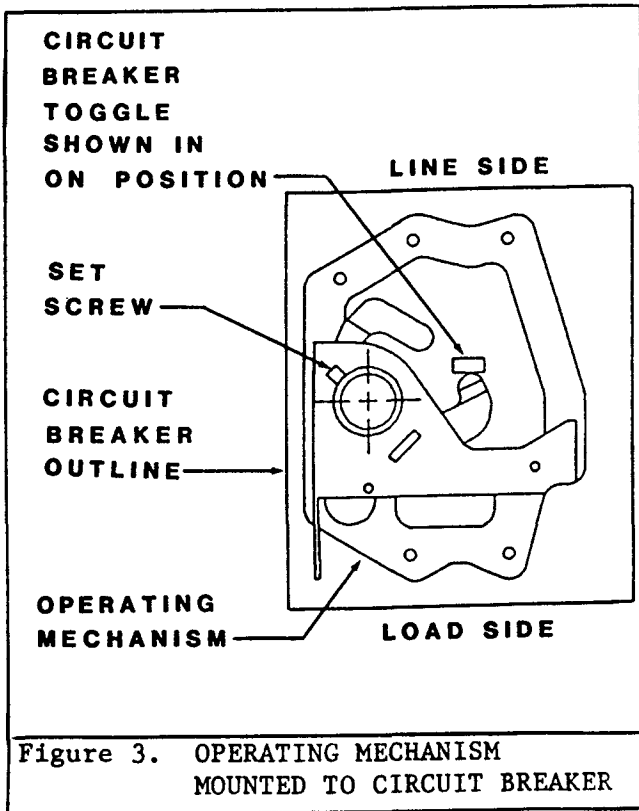

Figure 3. OPERATING MECHANISM MOUNTED TO CIRCUIT BREAKER
3. Insert the 8-32 x 1/2" set screw into operating mechanism and advance one turn only. Set circuit breaker toggle switch to ON position. Insert the four spacers into the four mounting holes in circuit breaker. Position operating mechanism over these spacers and insert four 8-32 x 3-7/8" screws. See Figure 3.